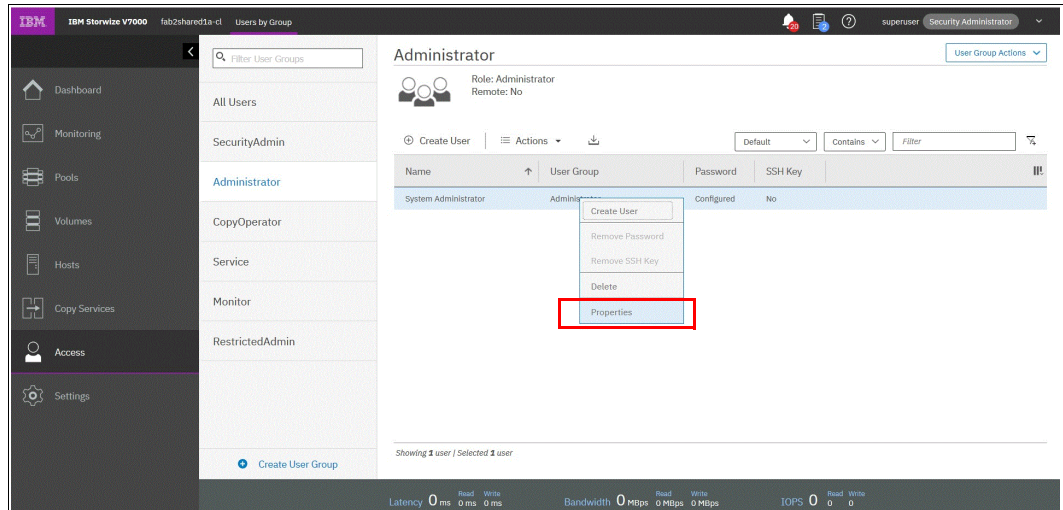
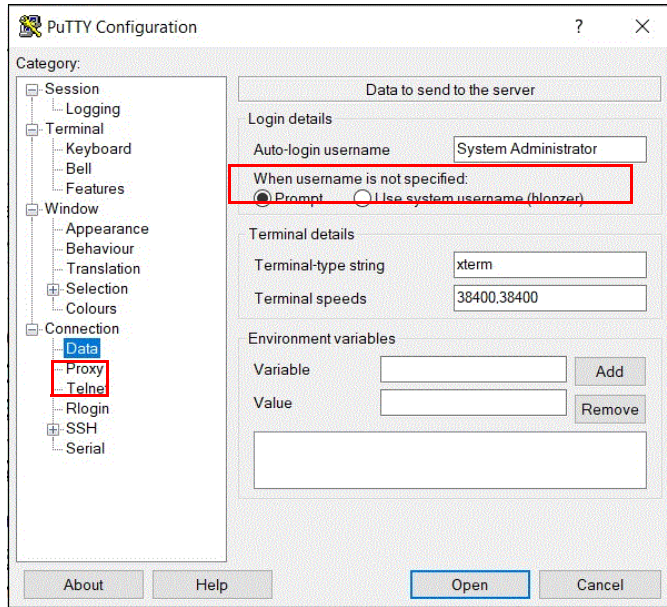

Figure C-5 User properties
Figure C-9 PuTTY Auto-login username
- Right-click the username for which you want to upload the key and click **Properties** (see Figure C-5).
2. In the upper right, select **SSH** as the connection type. In the “Close window on exit” section, select **Only on clean exit** (see Figure C-9 on page 932), which ensures that if any connection errors occur that they are displayed on the user’s window.
- In the Category window, on the left side of the PuTTY Configuration window, select **Connection** → **Data**, as shown on Figure C-9. In the “Auto-login username” field, enter the IBM Spectrum Virtualize user ID that was used when uploading the public key. The admin account was used in the example that is shown in Figure C-5 on page 930.